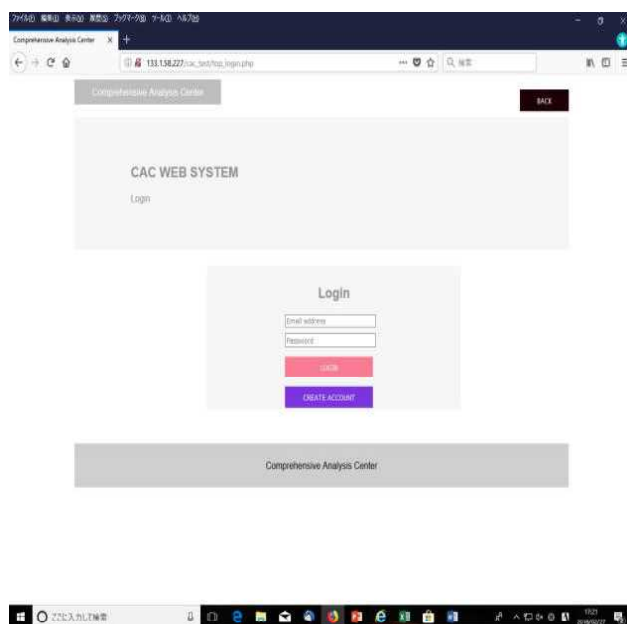

Figure 4
- 3)Enter User and Password in center of a screen of CAC Web System (Figure 4) to login.
- 1)After the login, click “U” button of the desired instrument. (P.23, Figure 4).
- 1) After the login, click "RQ" of Request of the device used. (P.23, Figure 4).